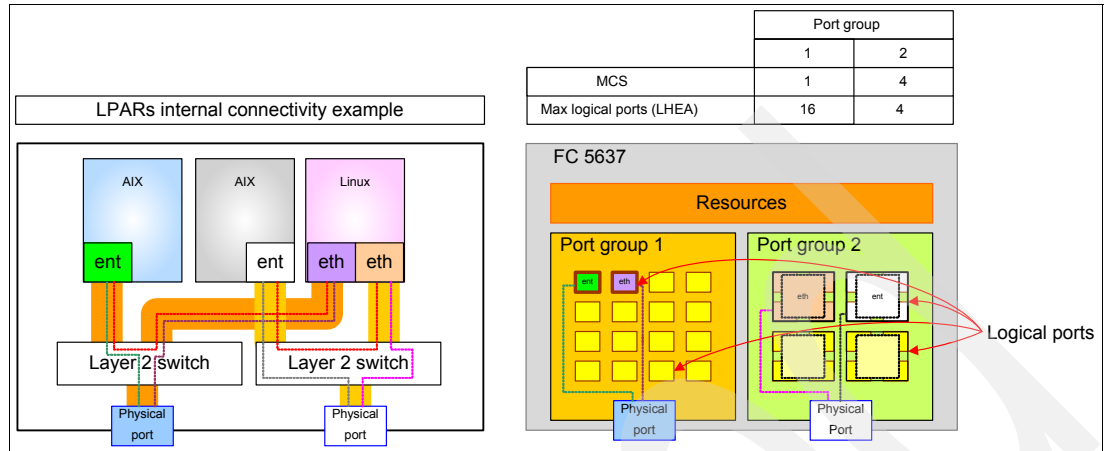

Figure 3-3 FC 5637 physical ports, port groups, logical ports representation and connectivity example
FC 5637, the Integrated 2-port 10 Gbps (SR) virtual Ethernet shown in Figure 3-3 on page 34, offers two physical ports, but every physical port is associated to its port group. Therefore any port group supports up to 16 logical ports per any physical port, depending on the MCS value associated with the port group. In our example, the first port group MCS value is set to 1 and the feature offers 16 logical ports through the first physical port. The second port group MCS value is set to 4 and the feature offers four logical ports through the second physical port.
In the LPAR's internal connectivity example related to FC 5637 (left side of Figure 3-3 on page 34), the first AIX LPAR can communicate internally with the Linux LPAR because both LPARs have a logical port assigned that belongs to the same physical port. But the first AIX LPAR cannot communicate with the second AIX LPAR, unless there is an external switch